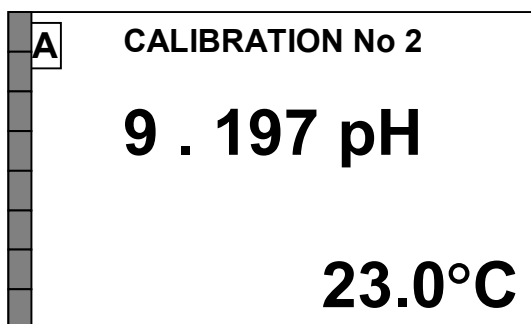

Fig. 2.7
- 11 If buffer solution pH value is identified automatically, it shall appear and the meter in the left part of the screen shall be pasted. Once the meter is pasted, the display shown in Fig. 2.7 shall come up.